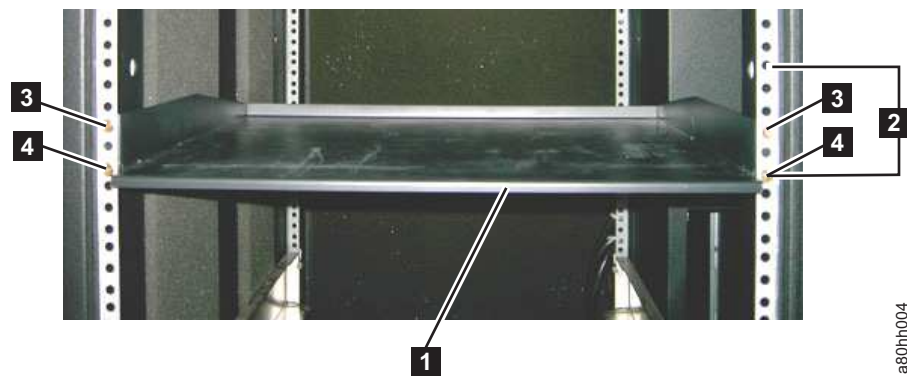

Figure 29. Front view of shelf attached to rack rails
1. Decide at what level you want to install the shelf. The 3580 requires 3 units (EIAs) of rack space (see **2** in Figure 29).
**Note:** All vertical rack measurements are given in rack units (U). One U is equal to 4.45 cm (1.75 in.). The U levels are marked on labels on one front mounting rail and one rear mounting rail.